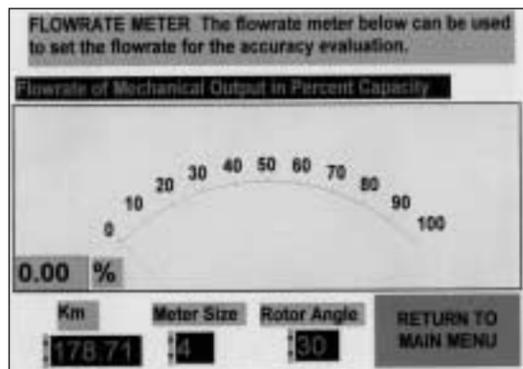

Figure 12 Flow Rate Display
- From the main menu screen, click on “Monitor Flow Rate” box or press F2. Figure 12 shows an analog display of flow rate in percent of capacity, which is updated every 2 seconds. A turbine meter accuracy test should be conducted at about 10% of capacity to detect any change in the meter’s friction level. Testing a turbine meter at 40% of capacity or greater will often mask any friction changes in the meter. Open the bypass valve until a flow rate of 10 to 15% is achieved. Return to the main menu.